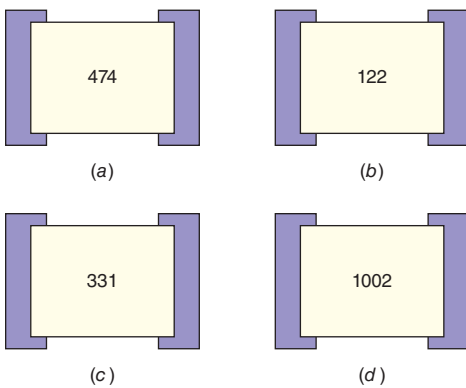

Figure 3-21 Chip resistors for Prob. 3.2.
- 3.2 Indicate the resistance for each chip resistor shown in Fig. 3-21.